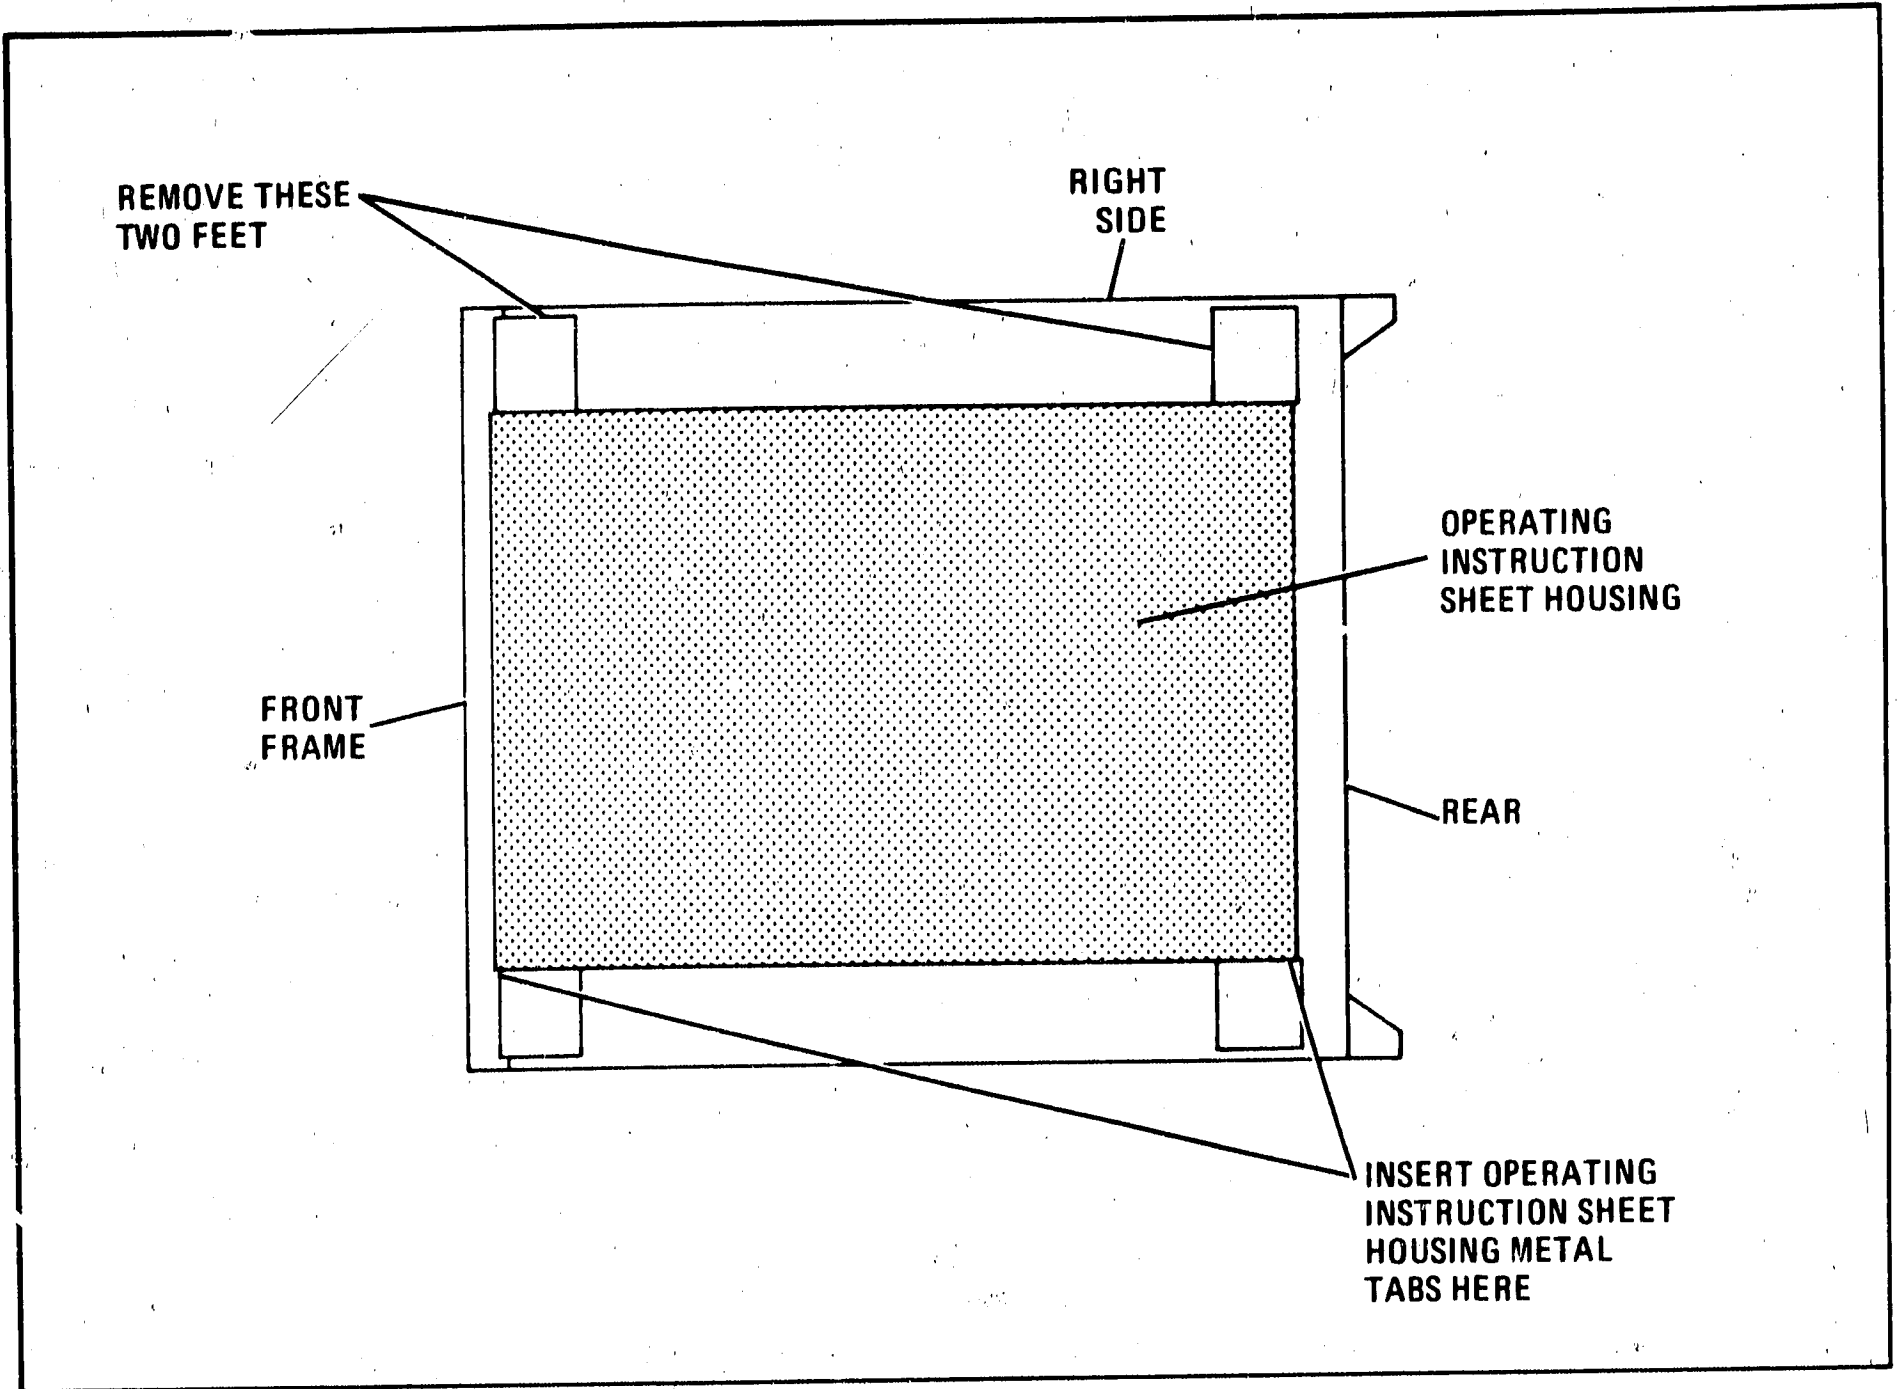

Figure 2-3. Changing 8505A Operating Instruction Sheet to Bottom of 8503A
- a. Set the 8505A on its left side (facing the front panel) and remove the two plastic feet from the right side of the instrument as shown in Figure 2-3. To remove feet, lift tabs and slide in direction of arrows.
- c. Set the 8503A on its left side and remove the two plastic feet from the right side of the instrument as shown in Figure 2-3.
- d. With the 8505A Operating Instruction Sheet (and its housing) oriented so the instruction sheet will pull out toward the front of the 8503A, insert the two bottom metal tabs on the instruction sheet housing under the two bottom feet of the 8503A (the tab near the front panel is inserted in the small slot between the front frame and the plastic foot). See Figure 2-3.